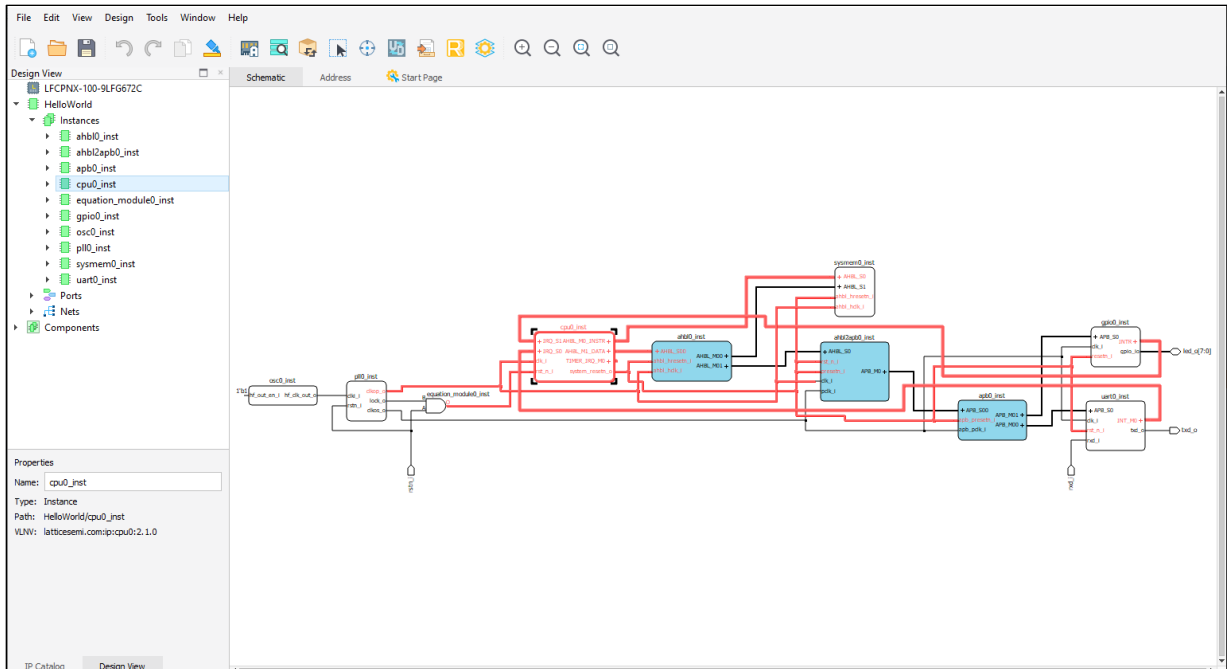

Figure 2.48. Show Connectivity of the Module
- To show the connectivity of a module: right-click the module and choose **Show connectivity**. All nets connected to the module, all pins and ports connected to the nets are highlighted (Figure 2.48).